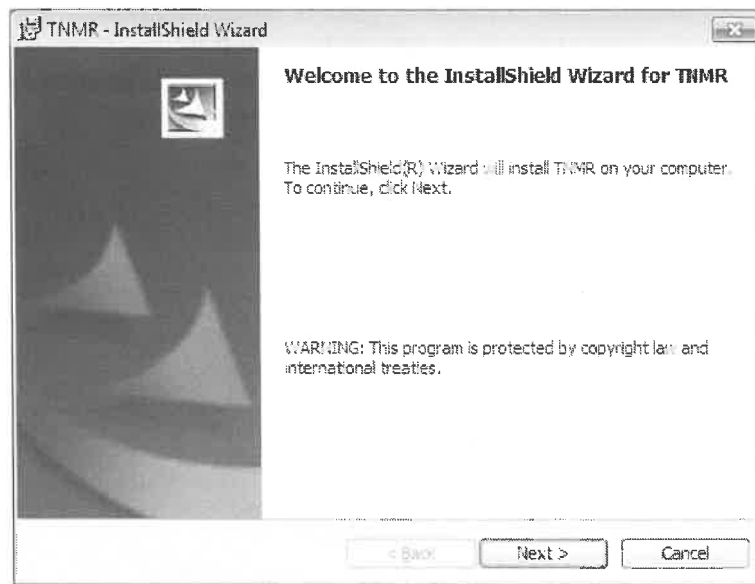

Figure 3
3. Click Next at the InstallShield Wizard Welcome screen (Figure 3)